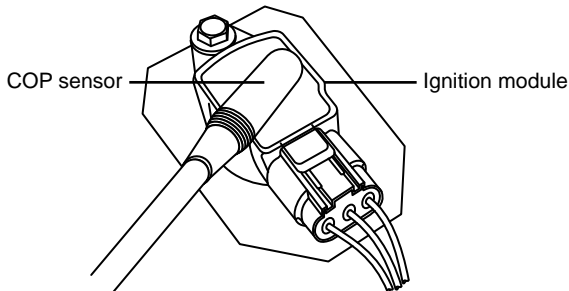

Fig. 12 - Using the COP sensor on a ignition module
- 5- Place the COP sensor on the top and center of the ignition module (as shown in the Fig. 12), and observe whether the instrument is able to detect and display the desired measurement.